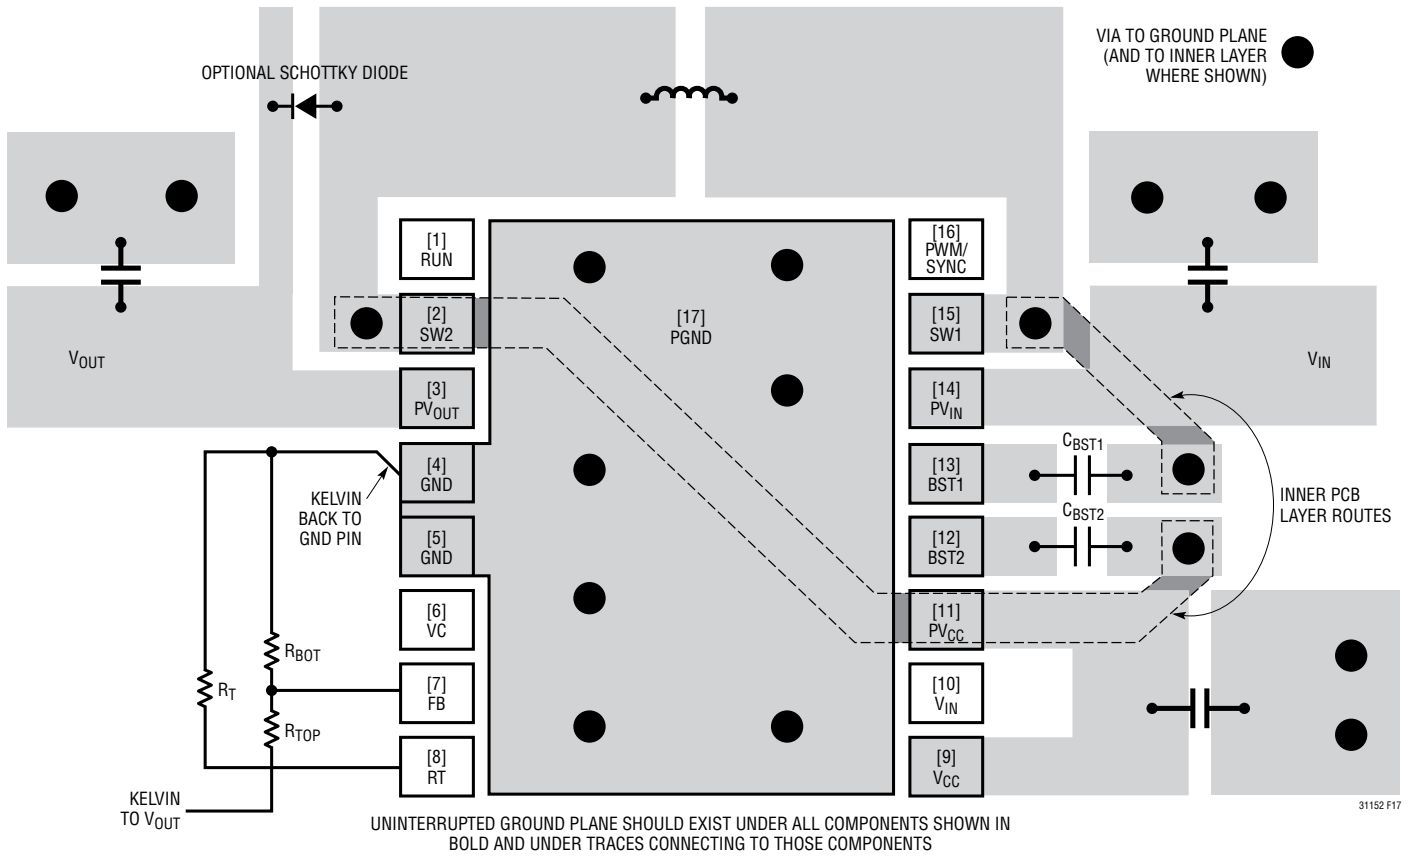

Figure 17. PCB Layout Recommended for the DHD Package
The LTC3115-2 buck-boost converter switches large currents at high frequencies. Special attention should be paid to the PC board layout to ensure a stable, noise-free and efficient application circuit. Figures 17 and 18 show a representative PCB layout for each package option to outline some of the primary considerations. A few key guidelines are provided below:
1. The parasitic inductance and resistance of all circulating high current paths should be minimized. This can be accomplished by keeping the routes to all bold components in Figures 17 and 18 as short and as wide as possible. Capacitor ground connections should via down to the ground plane by way of the shortest route possible. The bypass capacitors on  $PV_{IN}$ ,  $PV_{OUT}$  and  $PV_{CC}/V_{CC}$  should be placed as close to the IC as possible and should have the shortest possible paths to ground.
5. To prevent large circulating currents in the ground plane from disrupting operation of the LTC3115-2, all small-signal grounds should return directly to GND by way of a dedicated Kelvin route. This includes the ground connection for the RT pin resistor, and the ground connection for the feedback network as shown in Figures 17 and 18.